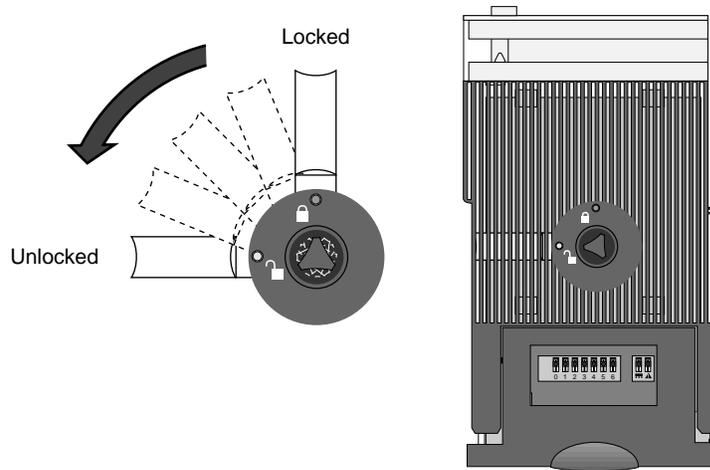

Figure 22. Unlocking the HDDA drive drawer
8. Insert the HDDA drive drawer key, and unlock the drive drawer by turning the key counter-clockwise, as shown in Figure 22.